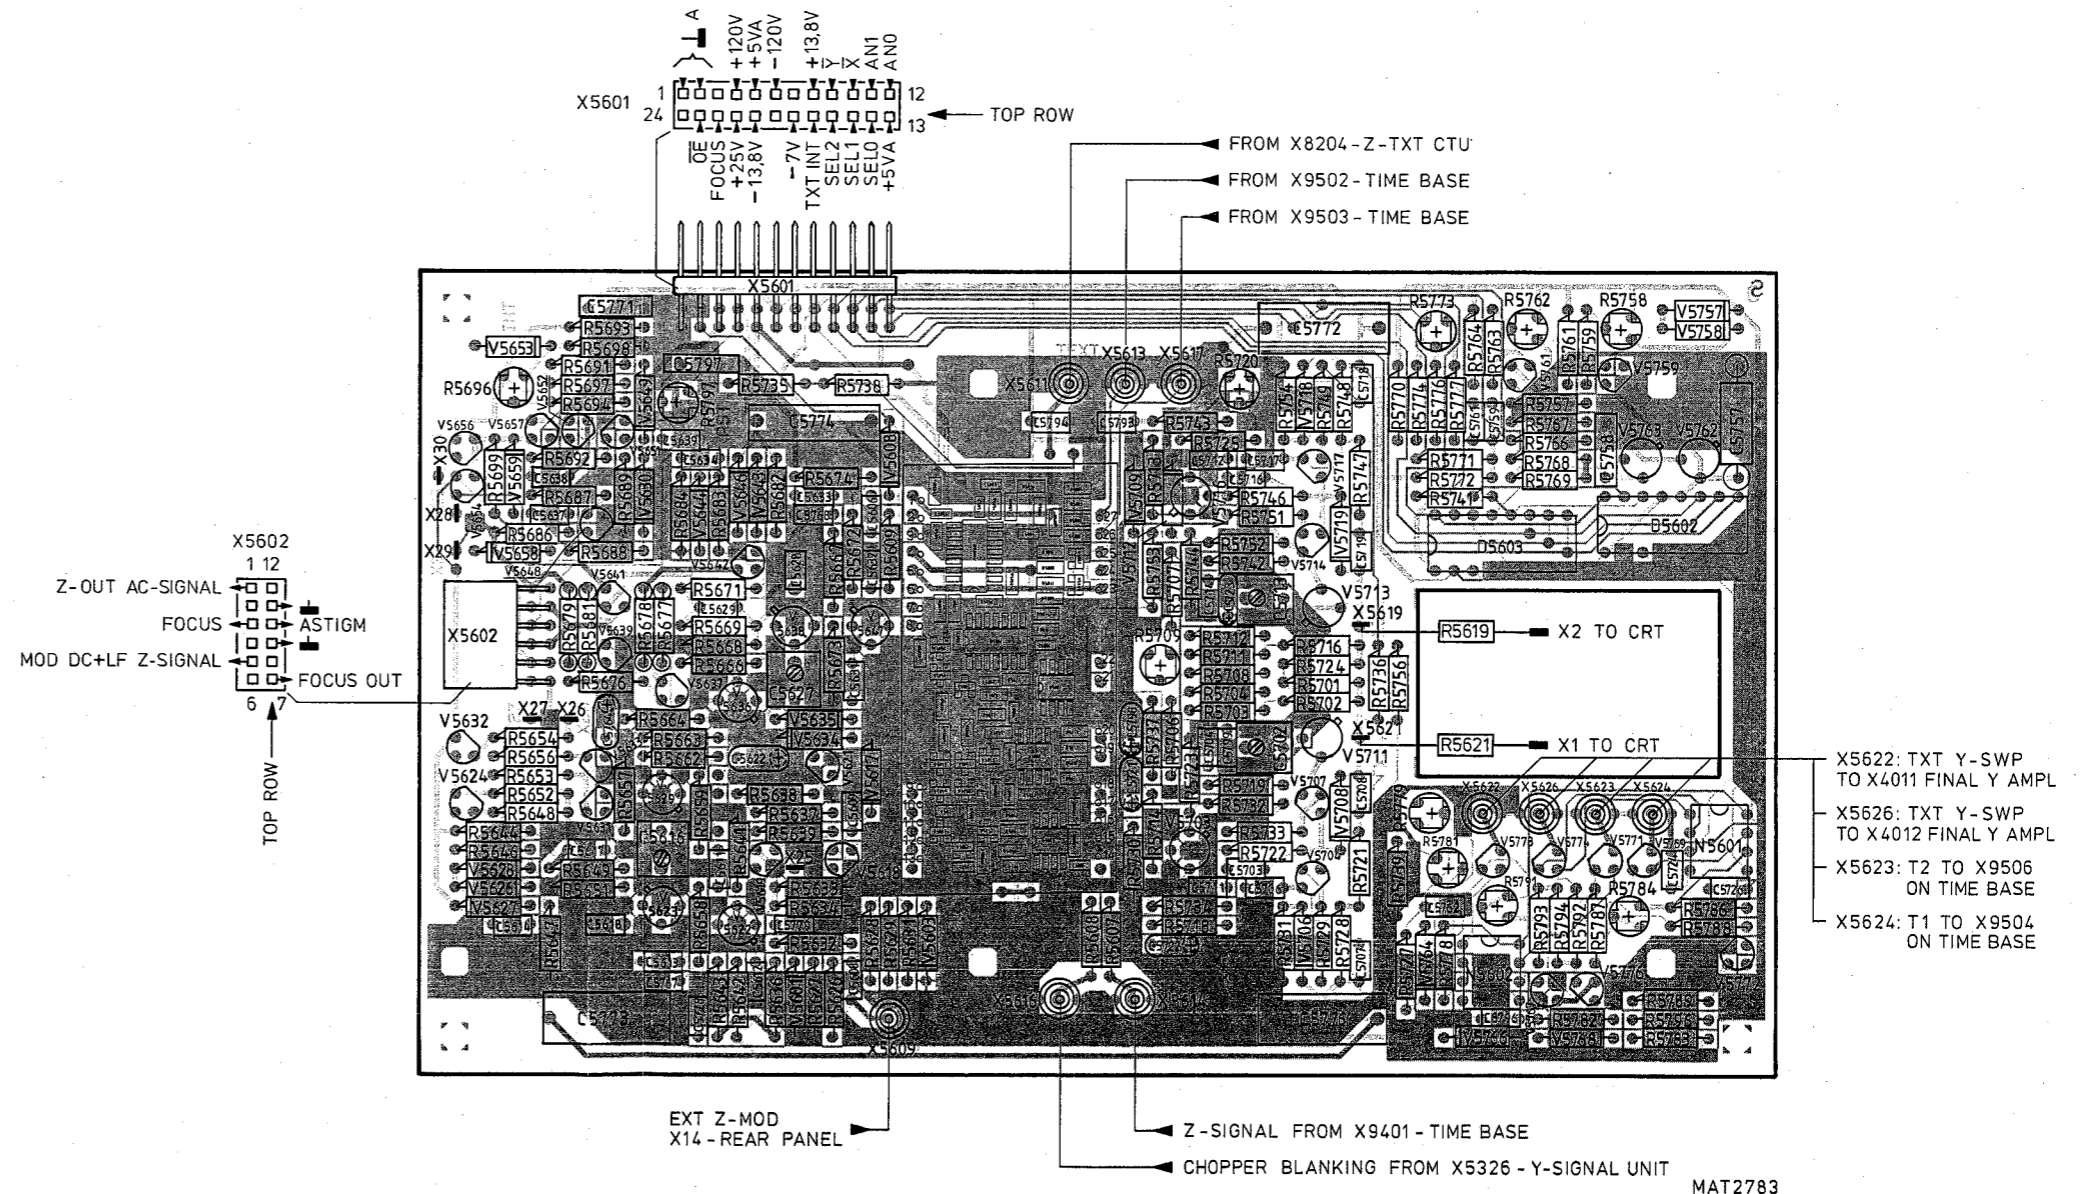

Fig.16.2. Final X/Z amplifier, p.c.b. lay-out.
16. CIRCUIT DESCRIPTION OF FINAL X/Z AMPLIFIER.16.1. CIRCUIT DESCRIPTION OF INTENSITY AND FOCUSING (See fig.16.2.)Z Amplifier